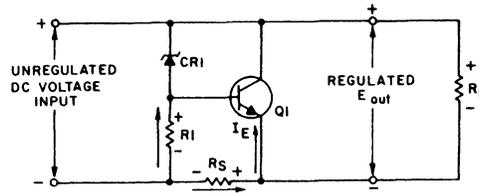
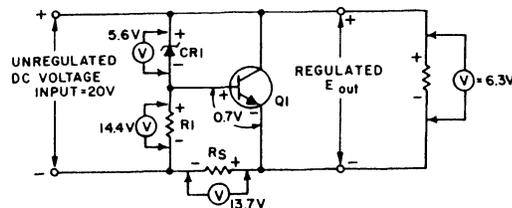
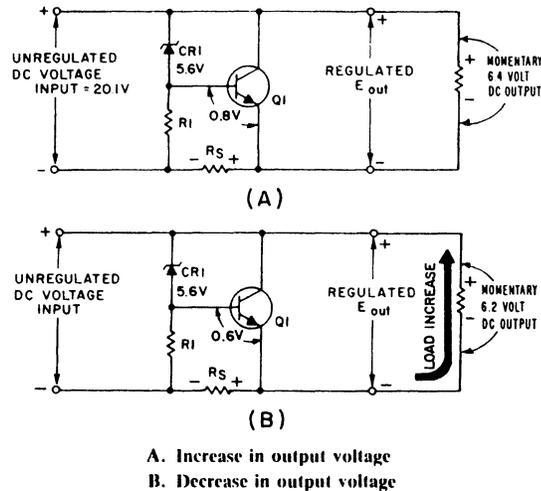

Fig 4-37. Shunt voltage regulator.
Fig 4-38. Shunt voltage regulator (with voltages).
Fig 4-39. Shunt voltage regulator.
The schematic shown in figure 4-37 is that of a shunt voltage regulator. Notice that  $Q1$  is in parallel with the load. Components of this circuit are identical with those of the series voltage regulator except for the addition of fixed resistor  $R_S$ . As you study the schematic, you will see that this resistor is connected in series with the output load resistance. The current limiting resistor ( $R1$ ) and Zener diode ( $CR1$ ) provide a constant reference voltage for the base-collector junction of  $Q1$ . Notice that the bias of  $Q1$  is determined by the voltage drop across  $R_S$  and  $R1$ . As you should know, the amount of forward bias across a transistor affects its total resistance. In this case, the voltage drop across  $R_S$  is the key to the total circuit operation.
Figure 4-38 is the schematic for a typical shunt-type regulator. Notice that the schematic is identical to the schematic shown in figure 4-37 except that voltages are shown to help you understand the functions of the various components. In the circuit shown, the voltage drop across the Zener diode ( $CR1$ ) remains constant at 5.6 volts. This means that with a 20-volt input voltage, the voltage drop across  $R1$  is 14.4 volts. With a base-emitter voltage of 0.7 volt, the output voltage is equal to the sum of the voltages across  $CR1$  and the voltage at the base-emitter junction of  $Q1$ . In this example, with an output voltage of 6.3 volts and a 20-volt input voltage, the voltage drop across  $R_S$  equals 13.7 volts. Study the schematic to understand fully how these voltages are developed. Pay close attention to the voltages shown.
Now refer to view (A) of figure 4-39. This figure shows the schematic diagram of the same shunt voltage regulator as that shown in figure 4-38 with an increased input voltage of 20.1 volts. This increases the forward bias on Q1 to 0.8 volt. Recall that the voltage drop across CR1 remains constant at 5.6 volts. Since the output voltage is comprised of the Zener voltage and the base-emitter voltage, the output voltage momentarily increases to 6.4 volts. At this time, the increase in the forward bias of Q1 lowers the resistance of the transistor allowing more current to flow through it. Since this current must also pass through  $R_S$ , there is also an increase in the voltage drop across this resistor. The voltage drop across  $R_S$  is now 13.8 volts and, therefore, the output voltage is reduced to 6.3 volts. Remember, this change takes place in a fraction of a second.
6. In figure 4-37, the voltage drop across  $R_S$  and  $R_L$  determines the amount of base-emitter \_\_\_\_\_ for  $Q_1$ .
7. In figure 4-39, view (A), when there is an increase in the input voltage, the forward bias of  $Q_1$  \_\_\_\_\_.
8. In view (B) of figure 4-39, when the load current increases and the output voltage momentarily drops, the resistance of  $Q_1$  \_\_\_\_\_ to compensate.